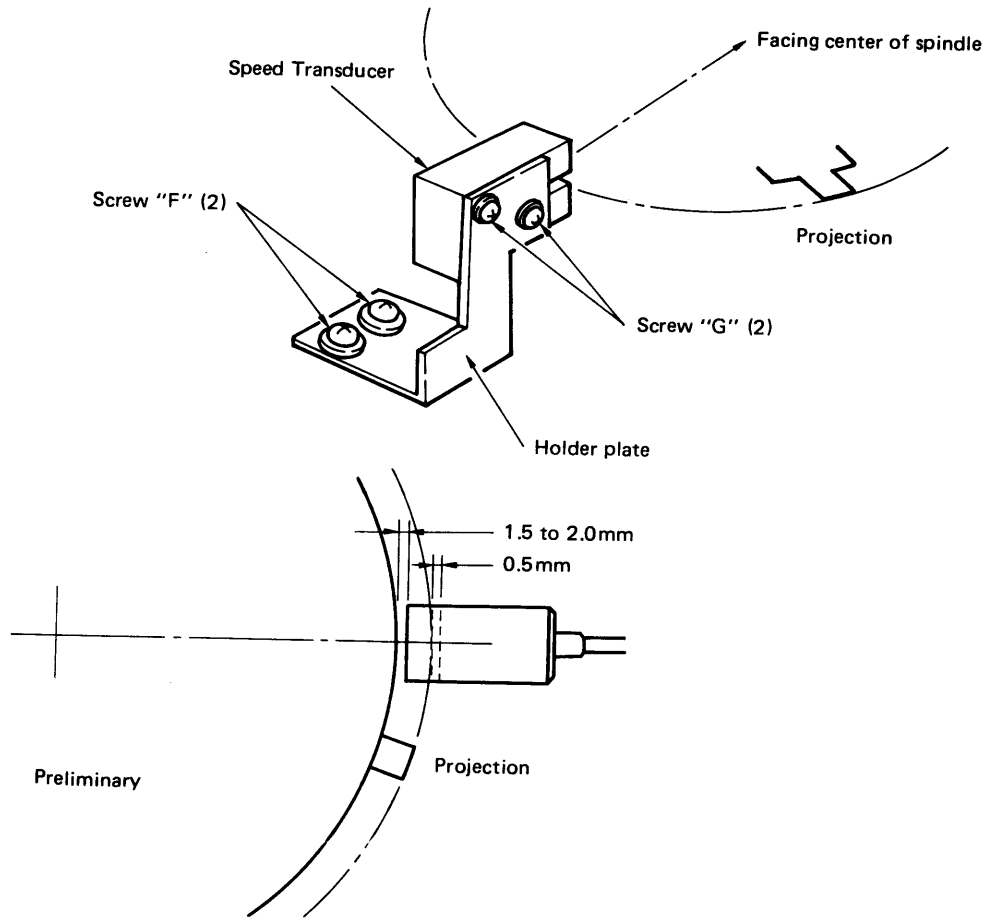

Figure 6-5-9 Speed Transducer
- (1) Remove disk enclosure as described in para. 6.5.1.
- (2) Loosen screw "F" (2) shown in Fig. 6-5-9, and remove holder plate. At this time, also remove the speed transducer assembly.
- (3) Loosen screw "G" (2), and replace the speed transducer assembly.
- (1) When installing the speed transducer, adjust so that it does not touch the pulley and projection. Refer to Fig. 6-5-9. Moreover, center of the speed transducer must be facing center of spindle. After adjustment, retighten screws.
- (2) Fasten Disk Enclosure to sub-frame as described in 6.5.1.
- (3) Rotate the spindle pulley by hand in proper direction and ensure that projection of the pulley does not contact the speed transducer. Also ensure that there is a gap (about 0.5mm) between the speed transducer and belt when the belt is shifted up to the speed transducer.